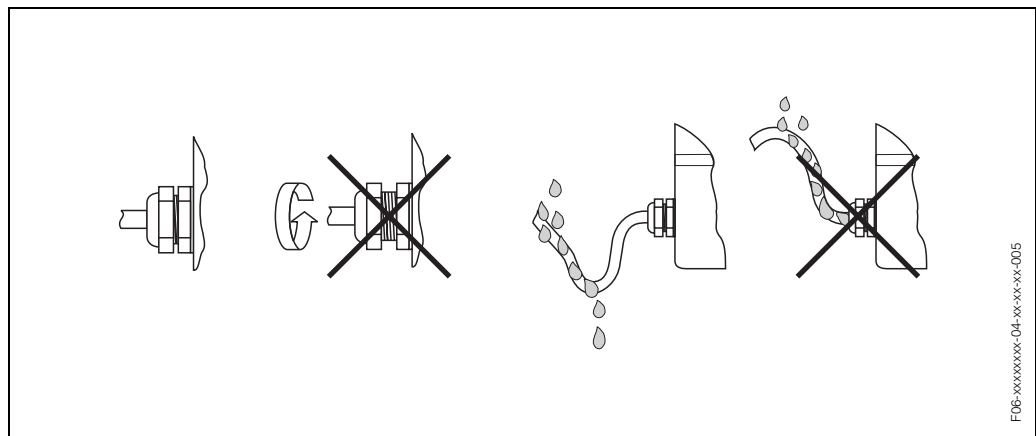

Fig. 34: Installation instructions for cable entries
- Firmly tighten the cable entries (Fig. 34).
- The cables must loop down before they enter the cable entries ("water trap", Fig. 34). This arrangement prevents moisture penetrating the entry. Always install the measuring device in such a way that the cable entries do not point up.